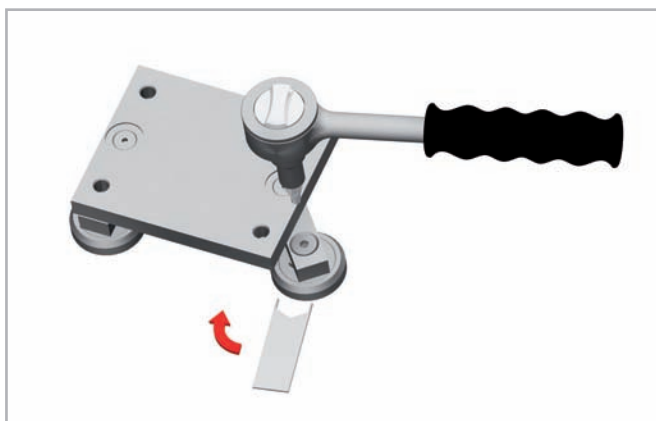

Fig. 22
- The special flat key provided is inserted from the side onto the hexagonal of the roller to be set (see fig. 22).